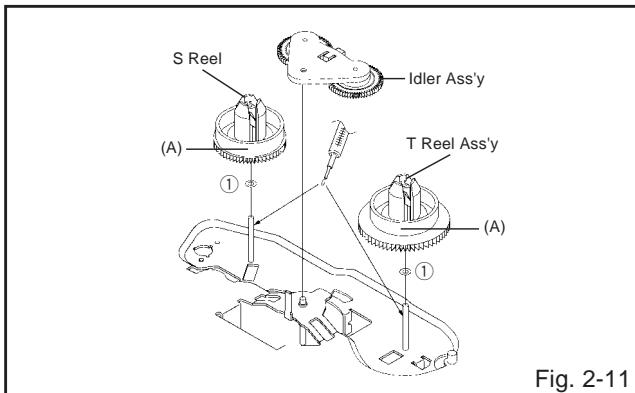

Fig. 2-11
### 2-11: S REEL/T REEL ASS'Y (Refer to Fig. 2-11)
4. Do not touch the section "A" of S Reel and T Reel Ass'y. (Use gloves.) (Refer to Fig. 2-11) Do not adhere the stains on it.